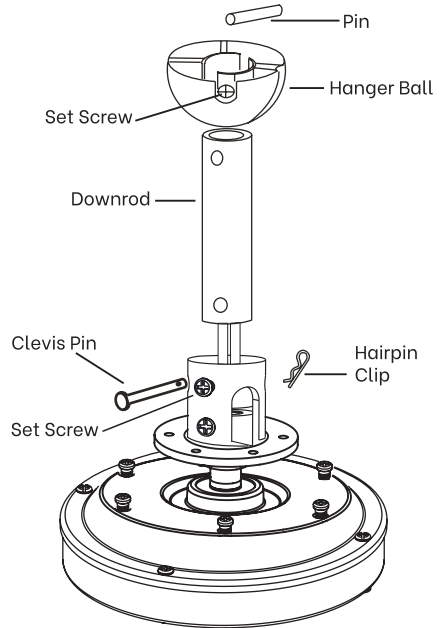

Fig.4 Motor Assembly
4. Carefully feed and route the fan wires up from the motor assembly through the downrod. Thread the downrod into the motor assembly coupling. Align the holes in the downrod support of the motor assembly with the holes in the downrod and reinstall the clevis pin and hairpin Clip. Tighten the set screws on motor assembly securely (Fig.4).